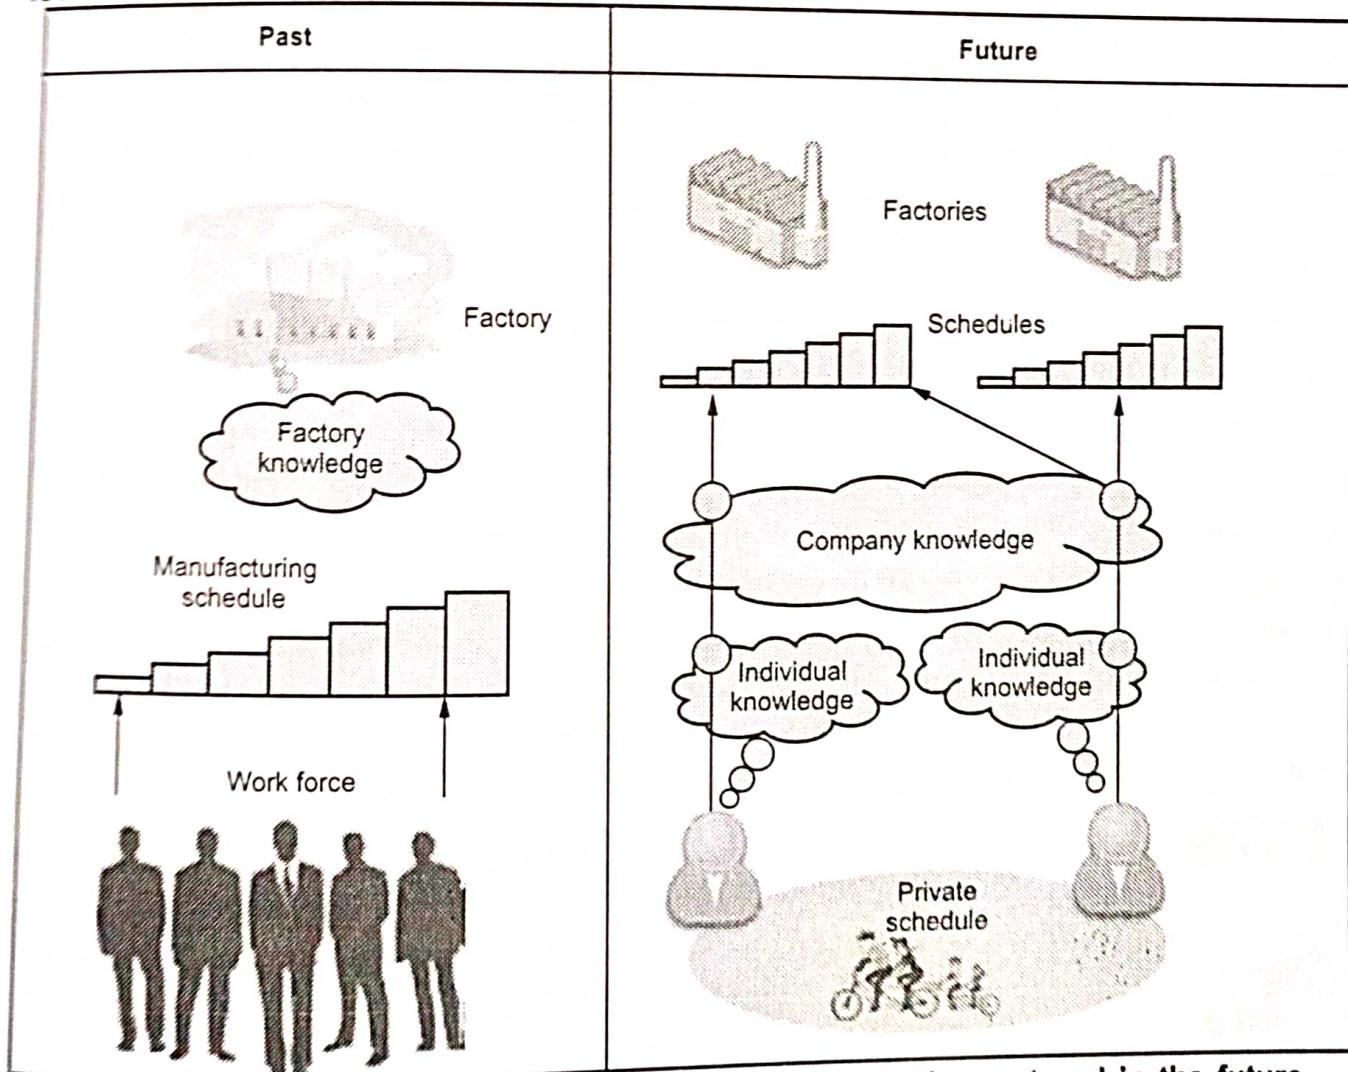

Fig. 7.8.2 : Relation between humans and factories in the past and in the future
- Fig. 7.8.2 shows relation between humans and factories in the past and in the future. (See Fig. 7.8.2 on previous page.)